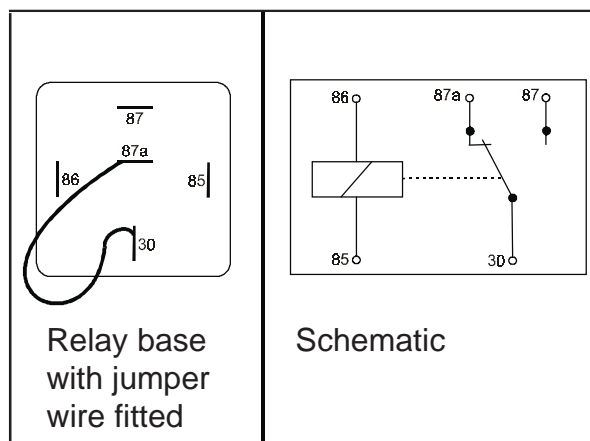

Figure 3 : Base and schematic of relay no. RL909/RL505
4. On T900 coaches remove relay no. RL909 from the rear junction box. On T2100 units remove relay no. RL505 from the main junction box. Install a jumper wire between terminals no. 30 and no. 87a of the relay holder (see Figure 3).